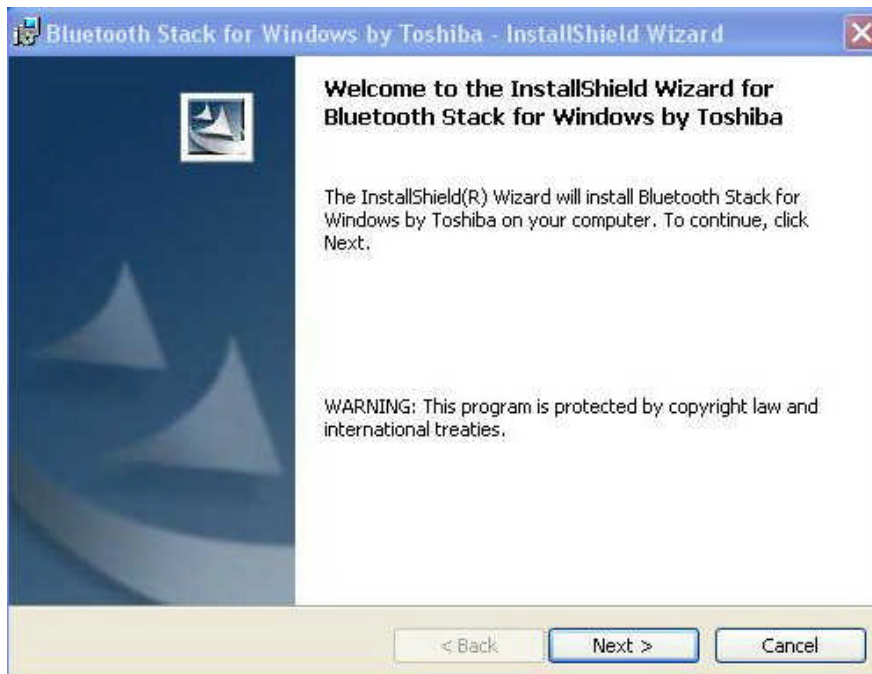

Figure 2.1: InstallShield wizard
- c. The InstallShield wizard is started. Click the Next button. (Figure 2.1)